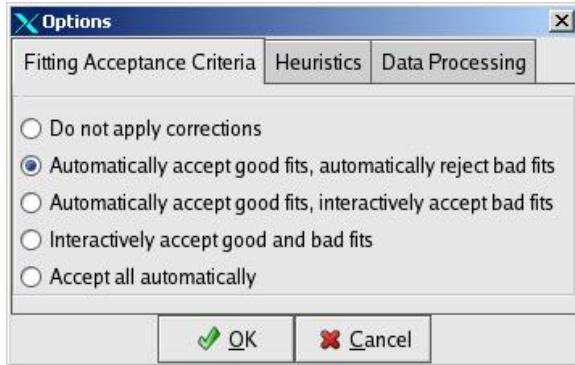

Figure 4.3: The pop-up menu to change the pointing and focus fitting acceptance criteria.
Step 5 Select the new mode in the pop-up window (see Figure 4.3).